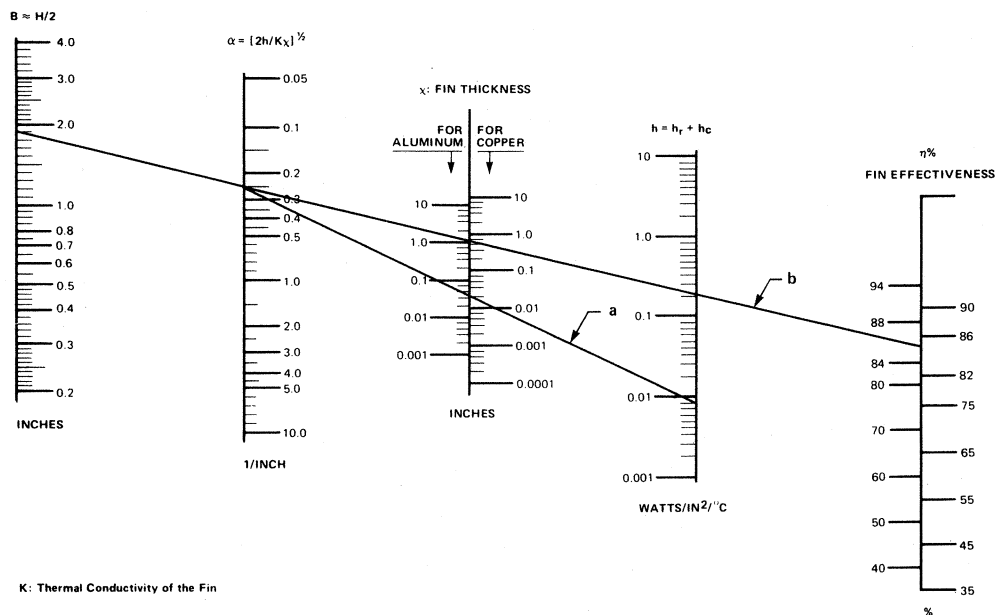

FIGURE 4.14.6 Fin Effectiveness Nomogram for Symmetrical, Flat, Uniformly-Thick, Vertically Mounted Fins
Fin effectiveness factor  $\eta$  includes the effects of fin thickness, shape, thermal conduction, etc. It may be determined from the nomogram of Figure 4.14.6.
The procedure for use of the nomogram of Figure 4.14.6 is as follows:
5. Find fin effectiveness factor  $\eta$  from Figure 4.14.6.
7. If  $\theta_{SA}$  is too large or unnecessarily small, choose a different height and repeat steps (3) through (6).
6. From  $h$  and  $f_{in}$  thickness use Figure 4.14.6 to find  $\alpha$  (line a)
8. From Figure 4.14.6 (line b)